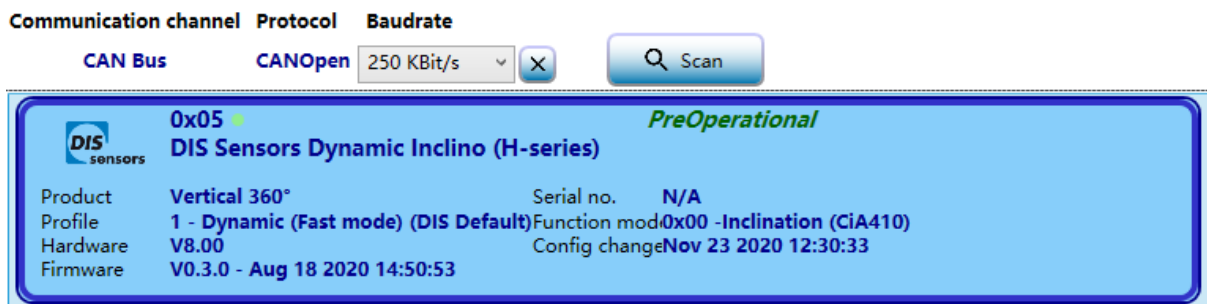

Figure 24 - Sensor detection
- **Sensor detection.** Click , the software will scan the CAN bus and find the connected sensors. Basic information such as product name, serial number, etc. will be shown in Figure 24.